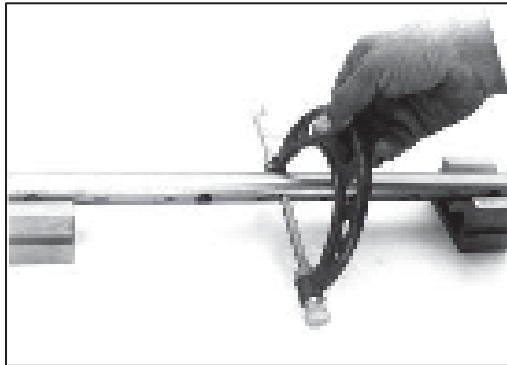

Fig. C2.46 Measuring the diameter of Rocker Shaft
1. Check the rocker arm shaft dia. by using micrometre as shown in the Figure C2.46